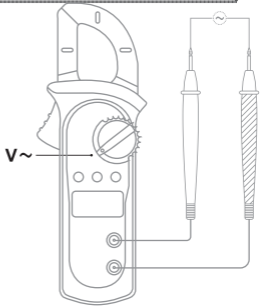

Figure 4
B. AC Voltage Measurement (Figure 4)**⚠ Warning**